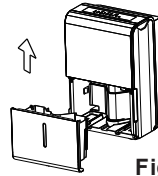

Fig.2
- Throw away the water and replace the bucket (see Fig. 2). The bucket must be in correctly and securely seated for the dehumidifier to operate.